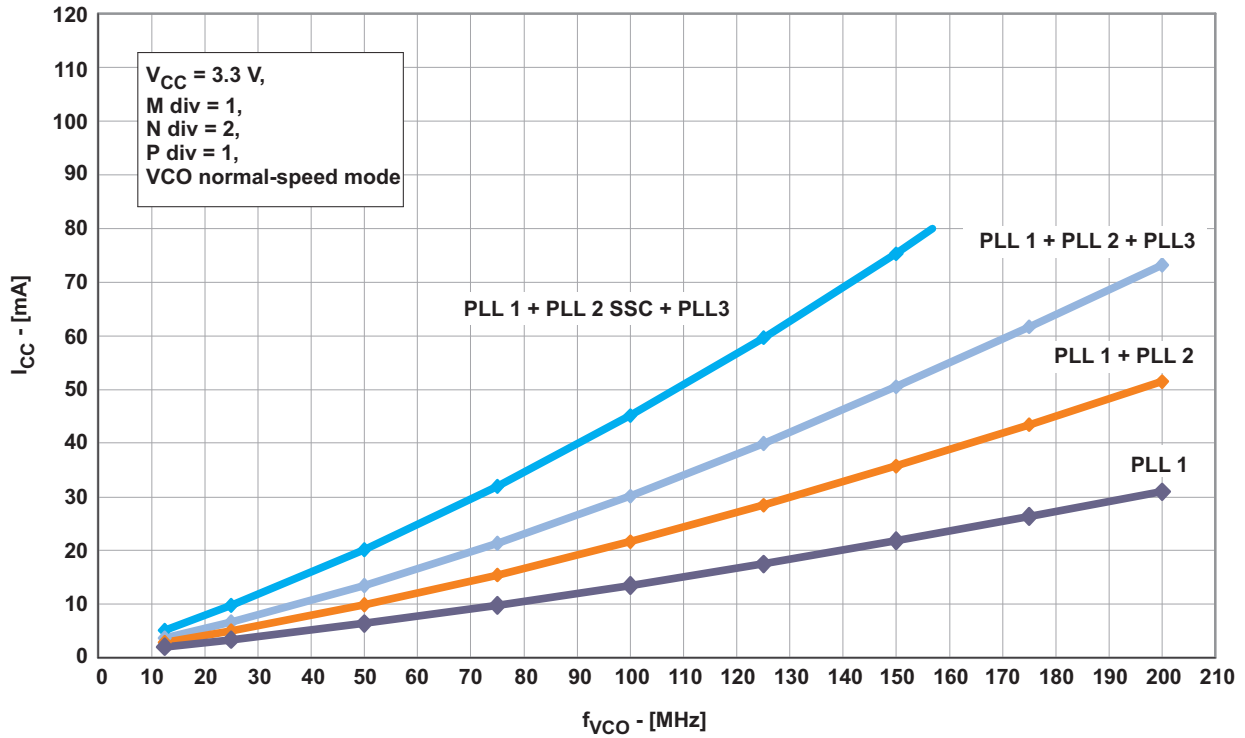
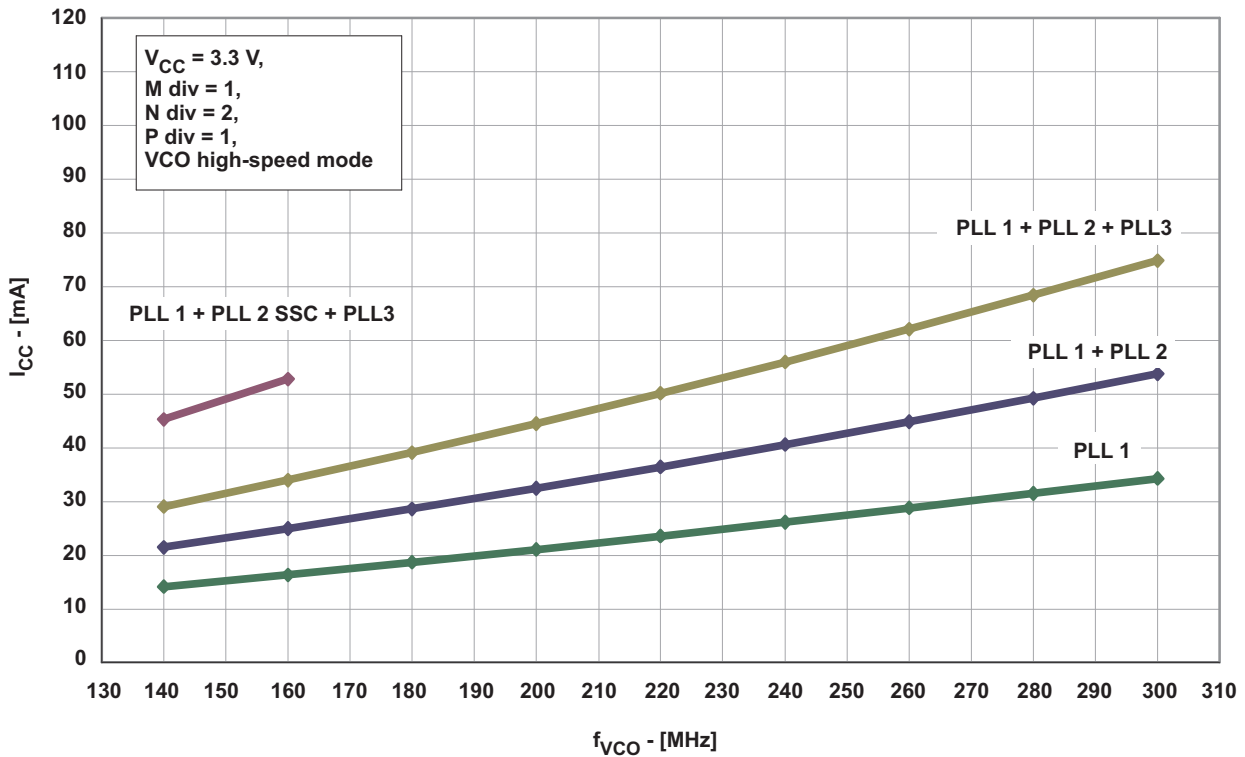
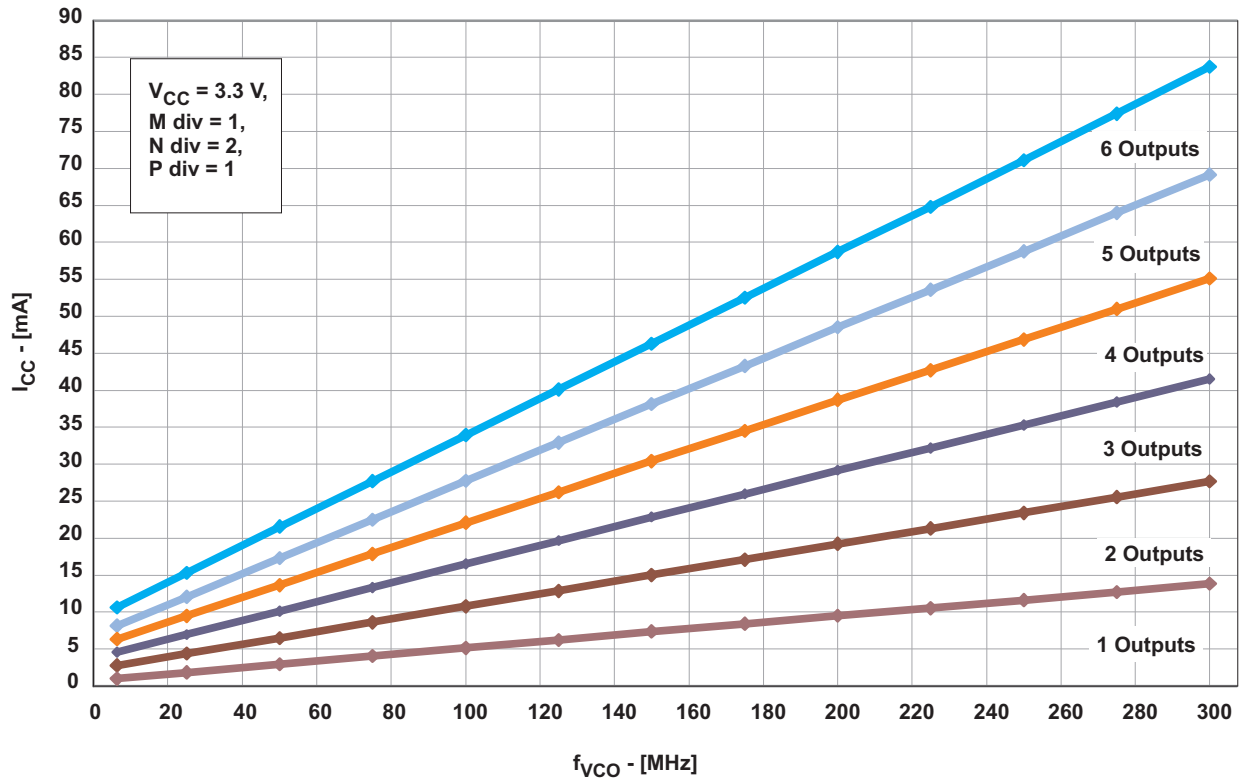

Figure 2. I_{CC} vs Number of PLLs and VCO Frequency (VCO at Normal-Speed Mode, Byte 6 Bit [7:5])
Figure 3. I_{CC} vs Number of PLLs and VCO Frequency (VCO at High-Speed Mode, Byte 6 Bit [7:5])
Figure 4. I_{CCOUT} vs Number of Outputs and VCO Frequency
(1) All typical values are at respective nominal V_{CC} .
(2) For calculating total supply current, add the current from Figure 2, Figure 3, and Figure 4. Using high-speed mode of the VCO reduces the current consumption. See Figure 3.
(3) Normal-speed mode or high-speed mode must be selected by the VCO frequency selection bit in Byte 6, Bit [7:5]. The min f_{VCO} can be lower but impacts jitter-performance.
(4) Do not exceed the maximum power dissipation of the 20-pin TSSOP package (600 mW at no air flow).